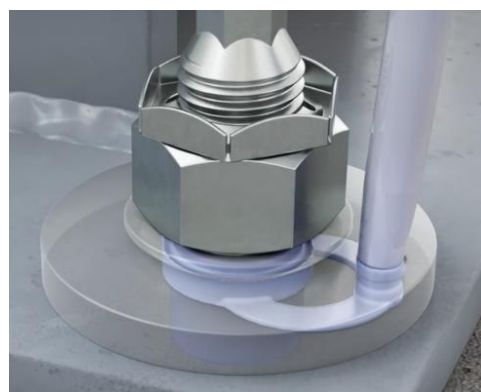

Figure 2 - An image of the internal workings of a Hilti filling set
For dynamic loading, the annulus between the HD bolt and the baseplate should be filled (a Hilti filling set could be used) – See Figure 2.
- The baseplate is made from steel and is in contact with the anchor (Figure 2).